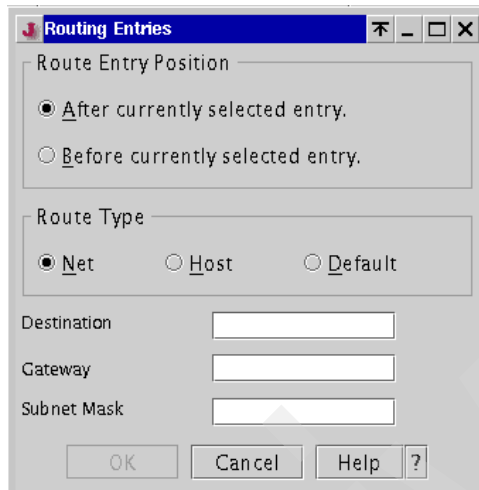

Figure 4-11 Routing Entries window
2. If there are additional static routing entries to be defined, click **New**. The Routing Entries window opens, as shown in Figure 4-11. Enter the corresponding information for the static routing entry, and then click **OK**.